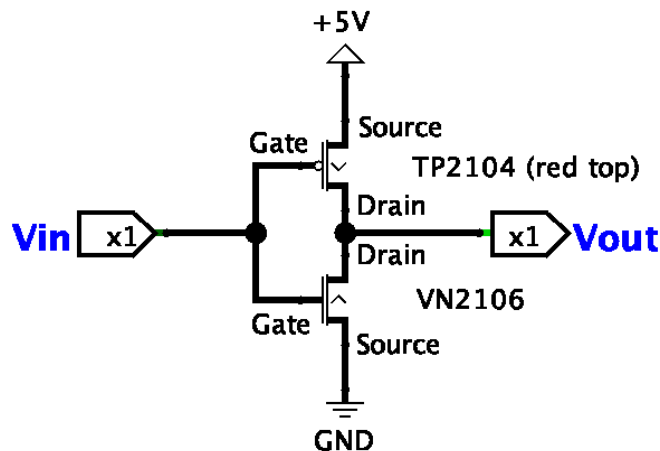

Figure 1 - CMOS Inverter
1. Construct the inverter shown in the schematic of Figure 1. Use the left side of the breadboard.